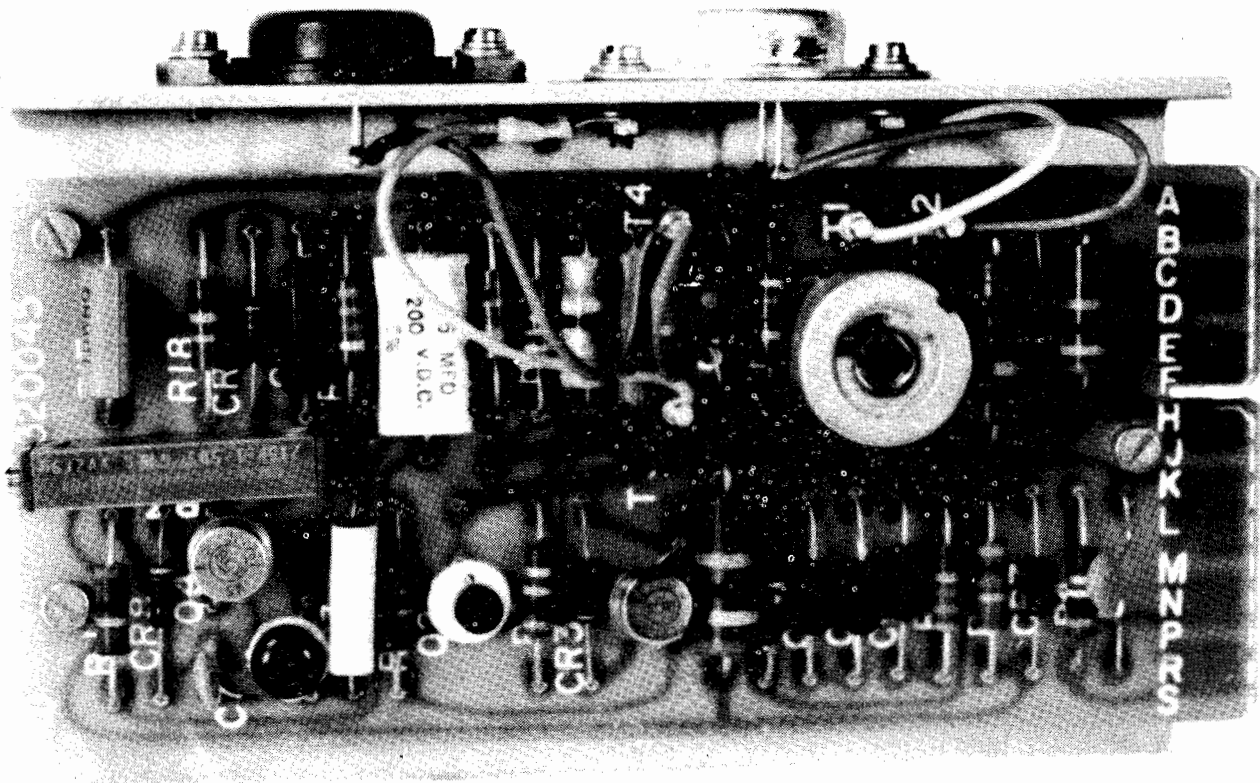

Figure 1 - Clutch Magnet Driver (CMD) 321991
1.01 The 321991 clutch magnet driver (CMD) circuit card assembly (Figure 1), when installed (plugged) in a shielded electrical service assembly (ESA) containing the proper power supply and filter assemblies, is intended for radio frequency interference (rfi) suppression of transmitter clutch operation in systems requiring low level rfi (Polar-EMC) kits. The complete CMD assembly, including heat sink, is mounted on a single 4-1/4 by 2-1/2 inch plug-in card (Figure 2).
- 5.01 The following instruments are required for making 321991 clutch magnet driver (CMD) electrical adjustments (refer to schematic wiring diagram of Figure 4 and to Figures 1, 2, and 3 for location of circuit elements):